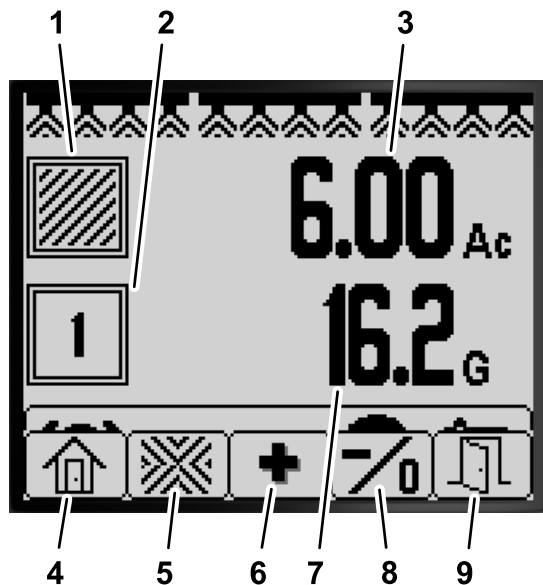

Figure 77
- From the Home screen, press and hold button 5 to open the menu bar and press button 2 to select the Sub-Area screen (Figure 77).
- button 3 to select the Sub-Area screen (Figure 77).
- Use the InfoCenter buttons (Figure 77) to perform the following actions: